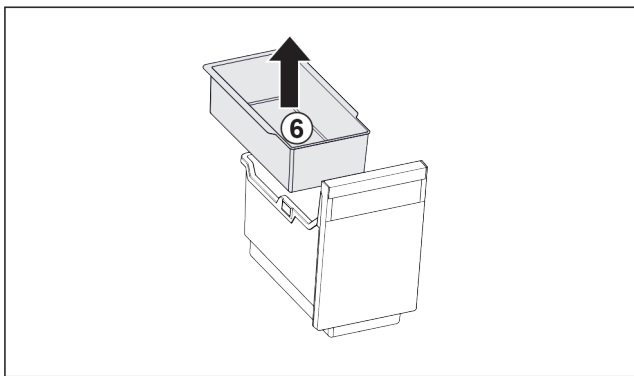

Fig. 27
- ▶ Remove the hang-on tray Fig. 27 (6).